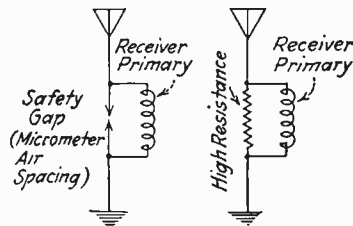

FIG. 24a.—Protective devices on receiver.
2. Safety gap (lightning arrester) connected across the primary winding of the receiving tuner (see Fig. 24a).
3. High resistance connected across the primary winding of the receiving tuner (see Fig. 24a).